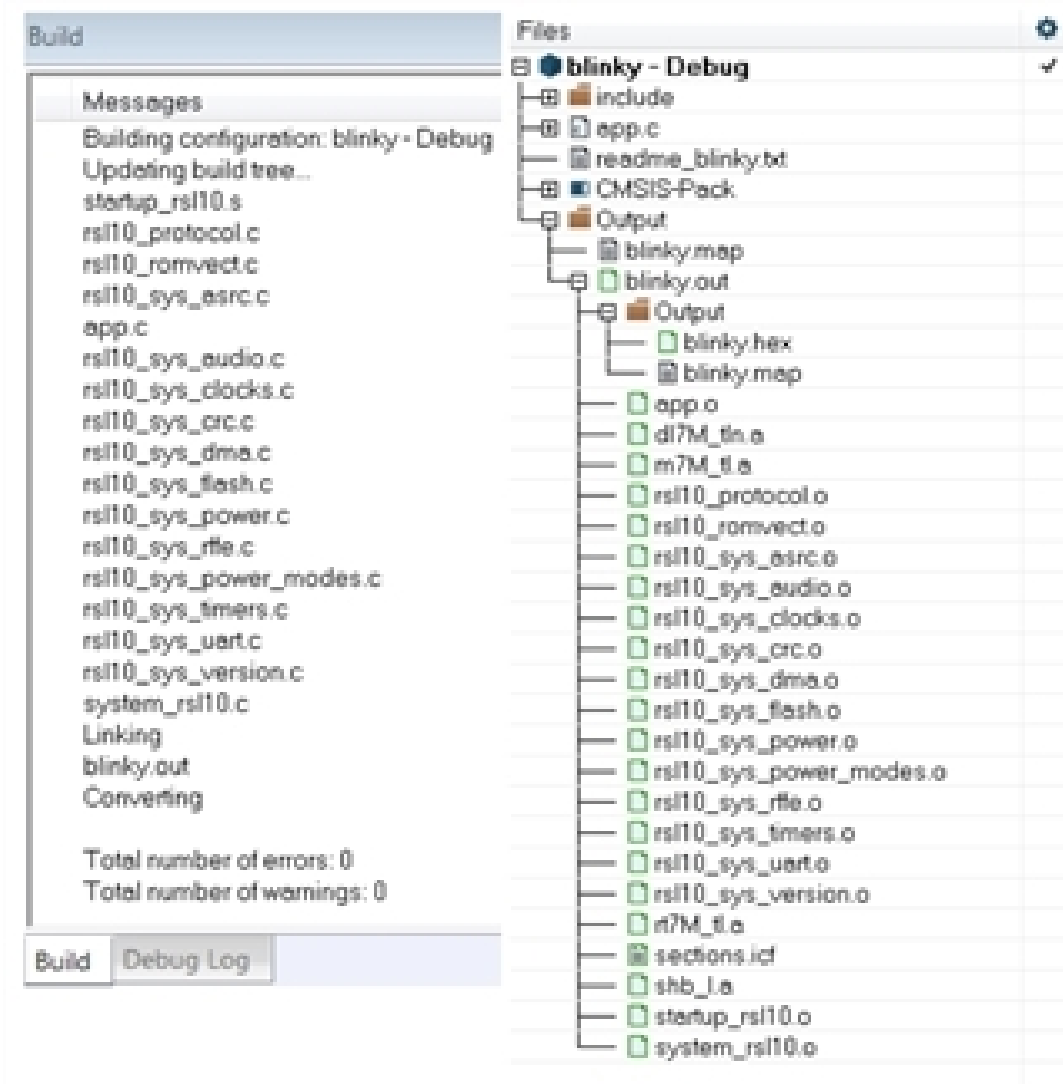

Figure 35. Example of Build Output
2. When the build is running, the output of the build is displayed in the Build Output view in the IDE, as illustrated in the figure "Example of Build Output" (Figure 35).